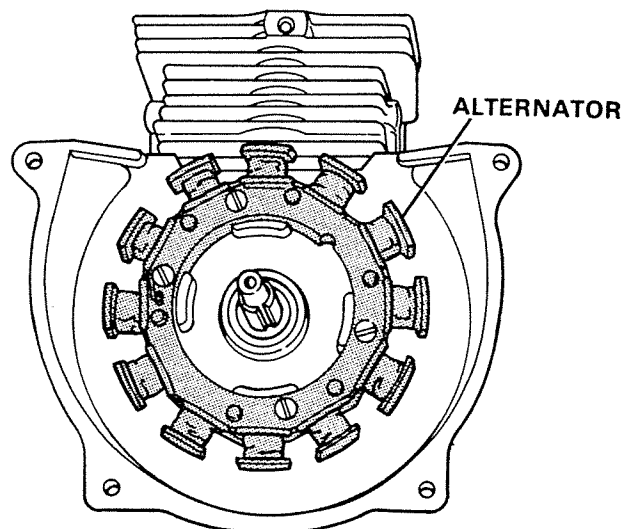

Figure 1. Installing Alternator.
1. Position alternator on support plate, secure with screws using Loctite pipe sealer. Figure 1.